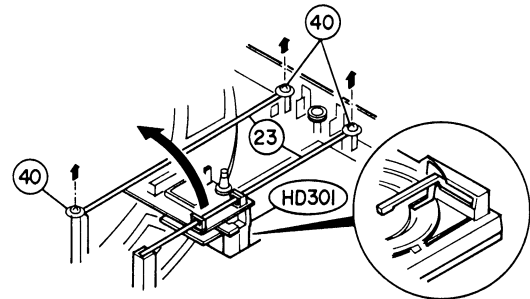

Figure 6
3. Take out the 3 fixing screws (40) of the rail (23), remove the rail, then lift up the Bracket Assembly to a position at which the tone arm (HD301) is aligned with the cut out portion of the cabinet opening as shown in Figure 6.